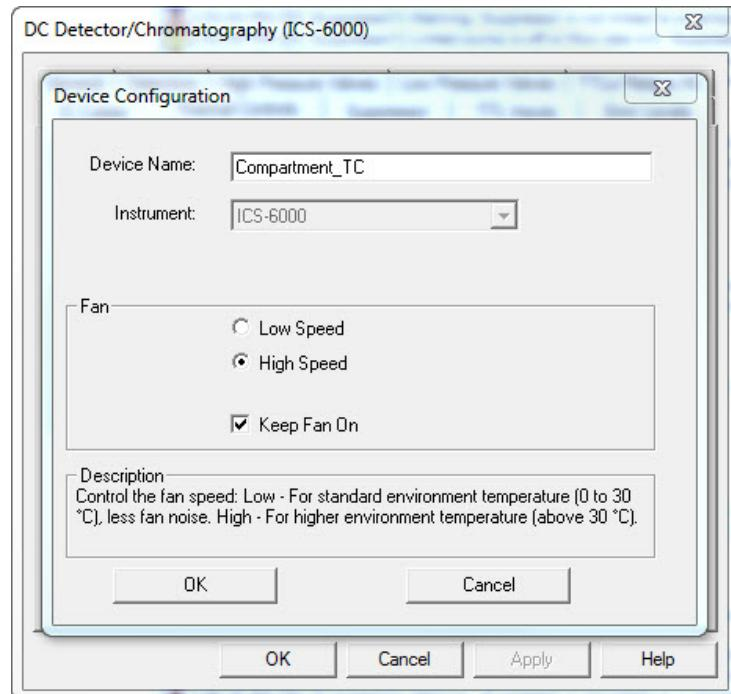

Figure 2-24. Setting the DC Upper Compartment Fan Speed
4. Under Fan, click **High Speed** (see Figure 2-24).